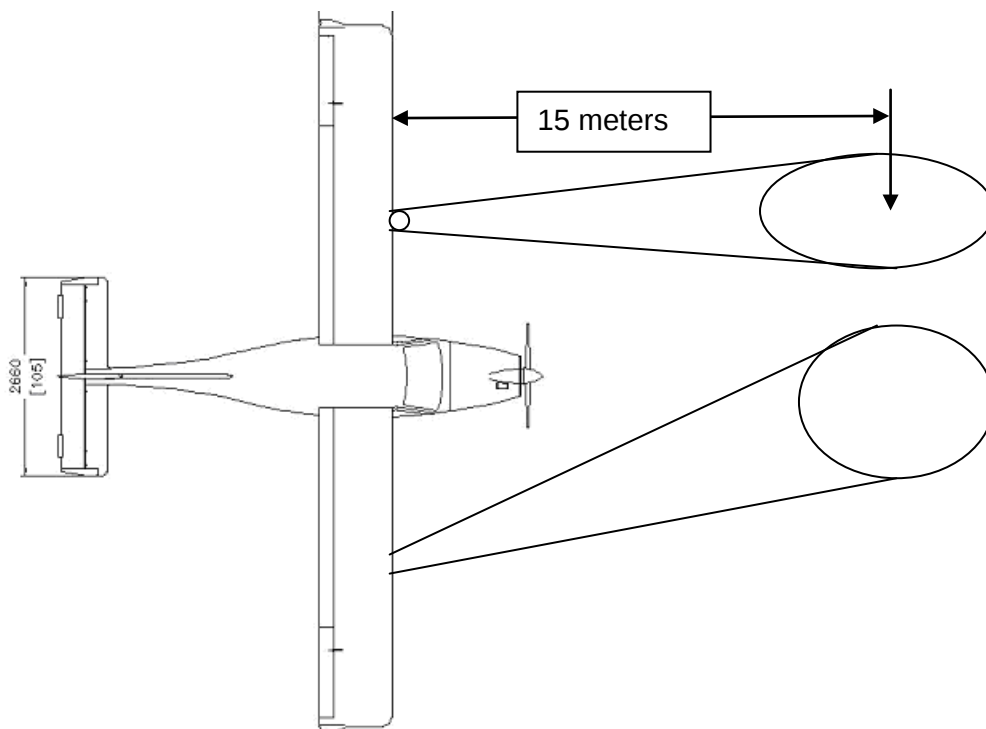

Figure 40 – Night-VFR Lighting Aim Diagram
- Aim the lights at the focal points given in Figure 40. Lock the position of the lamp by tightening the screws once aiming is complete.
- Ensure that when the “TAXI” light is selected the light shown on the right of Figure 40 illuminates – i.e. the TAXI light is aimed to shine on the centre of the taxiway 15m in front of the aircraft. The LANDING light is aimed straight ahead.